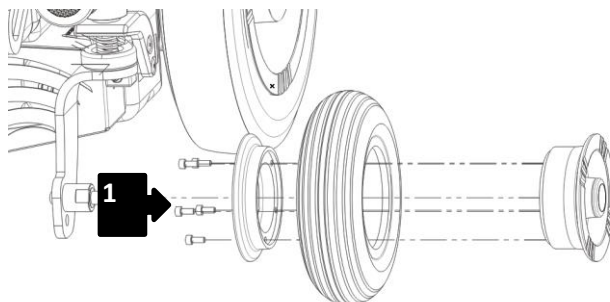

Figure 51
Remove the screws (1) shown in Figure 51 and take away the rim; after that it is possible to remove the tire with its tube.